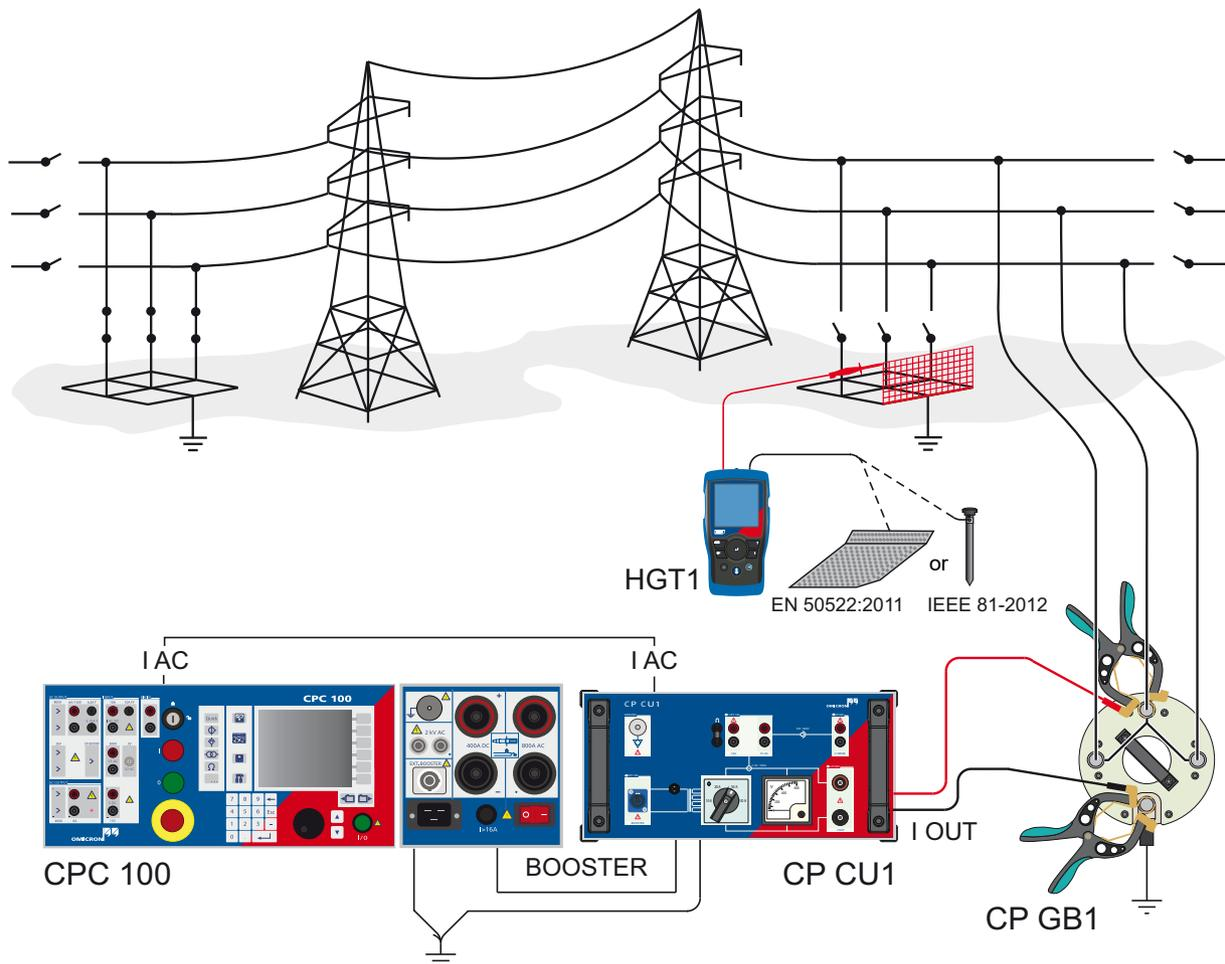

Figure 5-15: Step and touch voltage measurement setup
2. If criterion 3 is met, establish the measurement setup as shown in Figure 5-15 below.